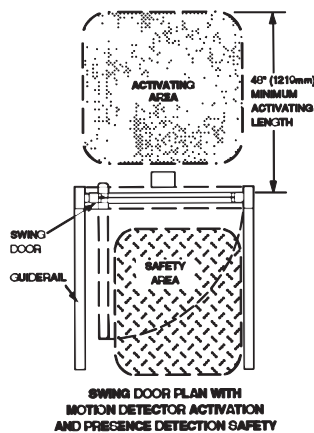

Figure 1
3. Approach the safety side of the door first, then have someone else approach the activating side of the door, as long as you are in the safety area of the door it should not open. (See Figure 1)